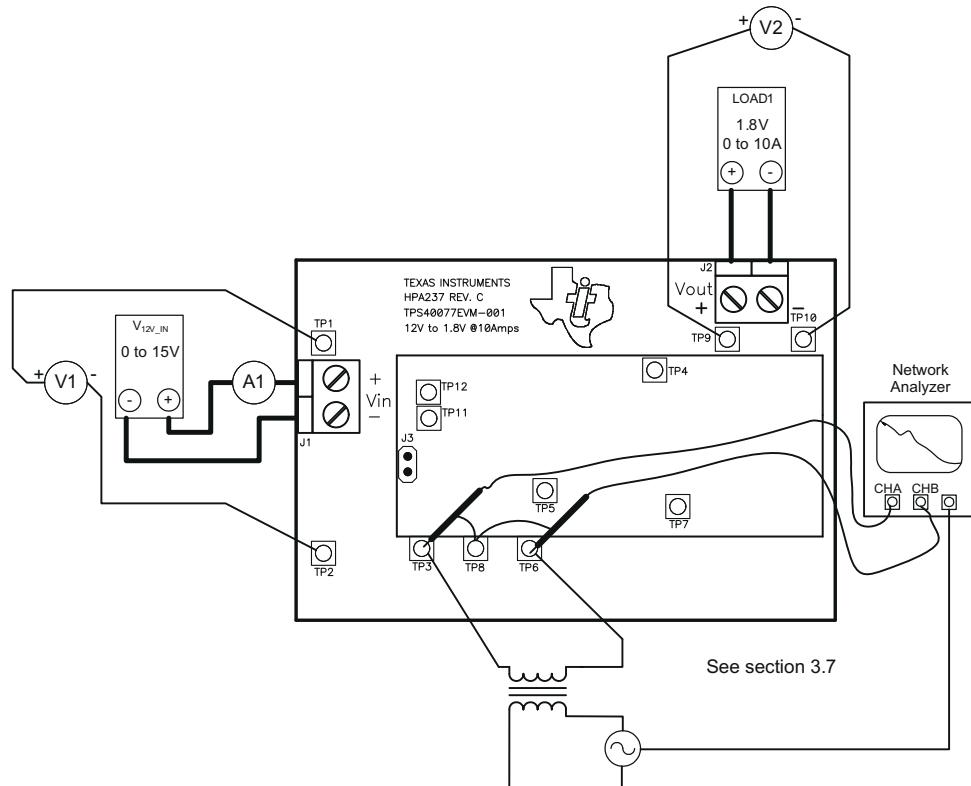

Figure 3-4. Control Loop Measurement Setup
1. Connect a 1-kHz to 1-MHz isolation transformer to TP3 and TP6 as shown in Figure 3-4.
2. Connect an .input-signal amplitude-measurement probe (channel A) to TP3 as shown in Figure 3-4.
3. Connect an output-signal amplitude measurement probe (channel B) to TP6 as shown in Figure 3-4.
4. Connect the ground lead of channel A and channel B to TP8 as shown in Figure 3-4.